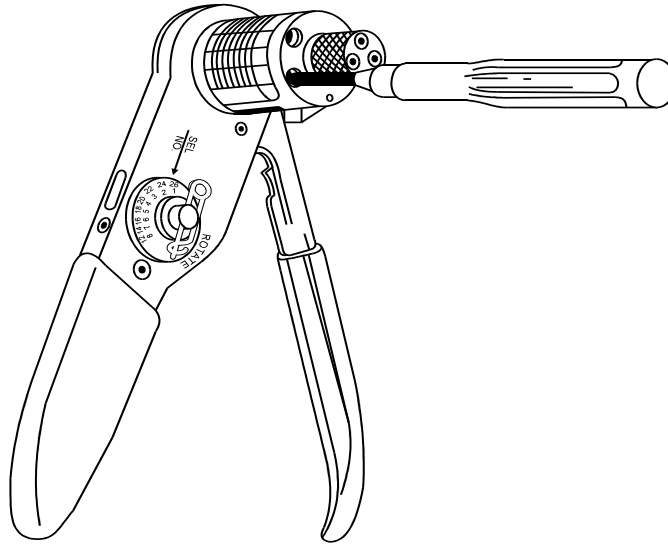

Figure 1-27
- Tighten the cap screws with an appropriately sized Allen key as shown in Figure 1-27.